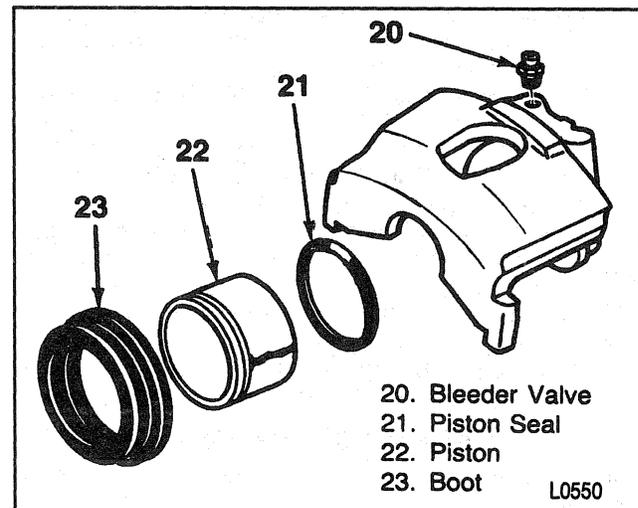

Figure 14—Calliper Components
←→ Remove or Disconnect (Figures 14 through 16)
3. Piston (22) (Figure 14).
5. Piston seal (21) (Figure 14).
6. Bleeder valve (20) (Figure 14).
Install or Connect (Figures 14 and 17)
2. Piston seal (21) (Figure 14).
7. Bleeder valve (20) (Figure 14).